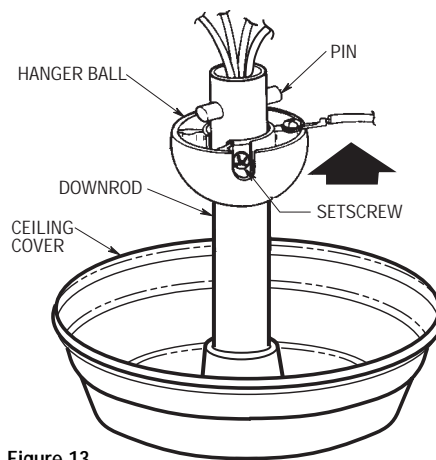

Figure 13
21. Position the ceiling cover over the downrod (Figure 13). Be sure the cover is oriented correctly, with the large opening at the top.
22. Reinstall the hanger ball on the downrod (Figure 13) as follows. Route the motor leads through the hanger ball and slide the hanger ball over the downrod. Install the pin through the holes at the top of the downrod and slide the hanger ball up the downrod, aligning the ball so the pin is captured in the groove in the top of the hanger ball. Pull the hanger ball up tight against the pin and securely tighten the setscrew in the hanger ball. A loose setscrew could create fan wobble.